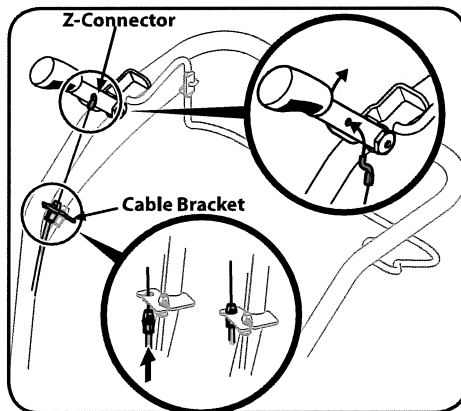

Figure 3-8
4. Pull the reverse clutch cable (if equipped) with the red fitting up through the top hole of the cable bracket and push the cable connector up through the hole until the groove in the connector snaps into place. See Figure 3-8.
5. Place the Z-connector into the hole in the reverse clutch handle assembly from the inside of the handle to the outside. See Figure 3-8.